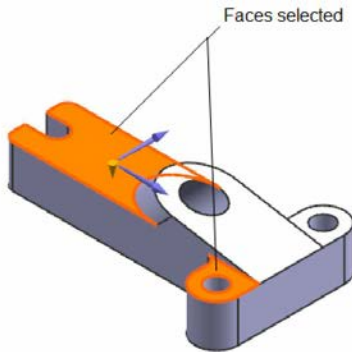

Figure 13-106 Entities selected to modify the thickness of the base plate
- f. Decrease the thickness of the base feature using the **Move Face** tool, refer to Figure 13-106.
2. Select the two faces of the base plate, refer to Figure 13-106, and then choose the **Reverse Direction** button from the **Transform** rollout.